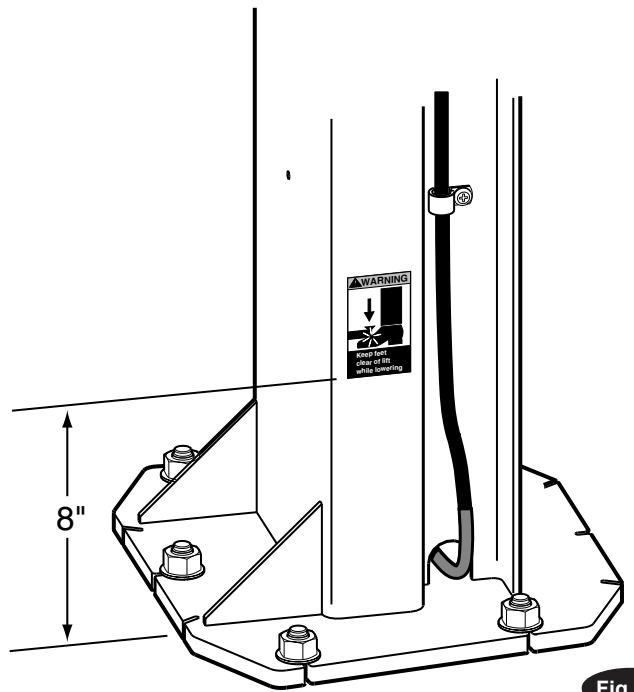

Fig. 25
18. Pinch Point Decal Location: Install enclosed pinch point decals. Place (1) decal on each column, Fig. 25. Decals should be a minimum of 8" from the bottom of decal to the ground.